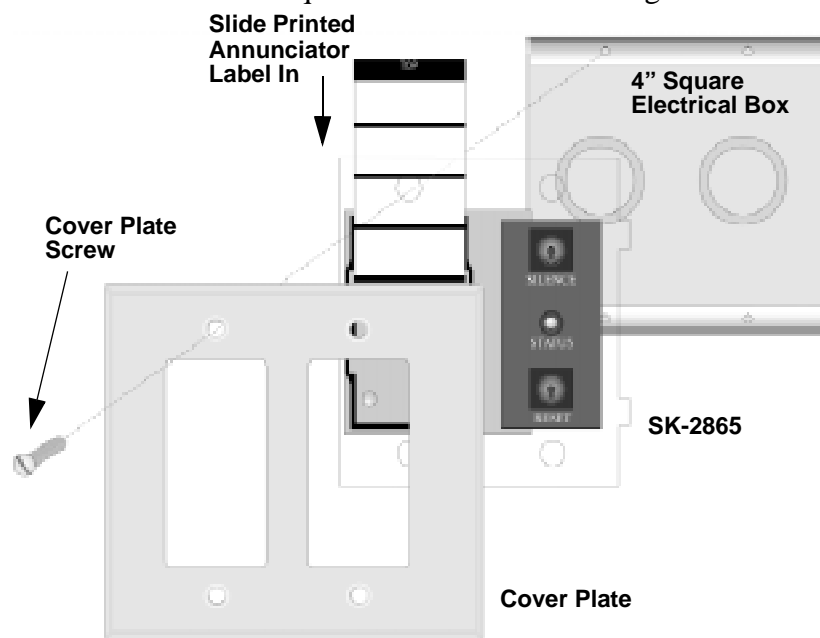

Figure 4-10 Mounting the SK-2865
3. Place the SK-2865 into the 4" square electrical box. See Figure 4-10.
4. Place the cover plate over the top of the SK-2865 and align the holes. See Figure 4-10.